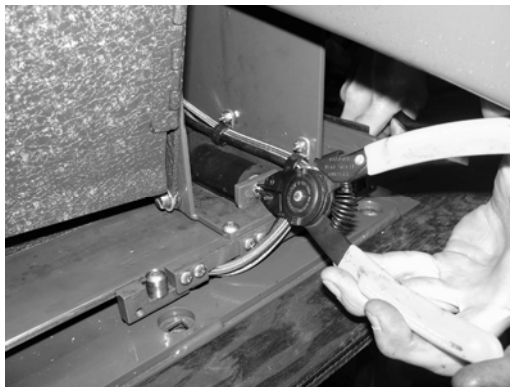

FIGURE 15
3. Refer to **FIGURE 15**. Remove snap ring off the front of 3" long pin.